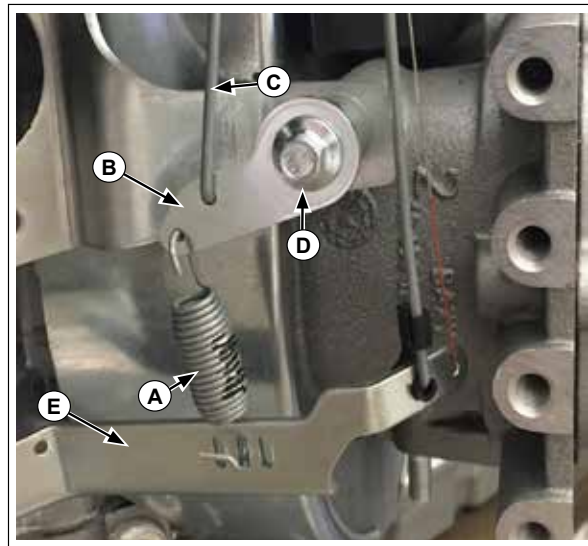

Figure 1. Original Governor Linkage Lever and Governor Spring.
Replacing the original (see Figure 1) black governor spring (19 089 08) with an orange governor spring 19 089 05-S and replacing the original governor linkage lever (19 090 01) with a new design (see Figure 2) governor linkage lever 19 090 05-S that moves the governor spring hole location, should correct this situation.
1. Remove the M6 screw (D) securing the governor linkage lever (B). Unhook the speed control linkage (C) and governor spring (A) from the governor linkage lever (B). Save the screw (D) and spacer behind the governor linkage lever (B); discard the governor linkage lever (B). Remove the governor spring (A) from the governor lever (E); discard the governor spring (A). See Figure 1.